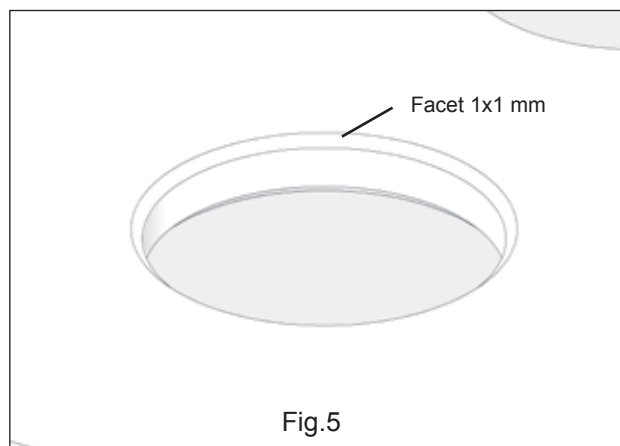

Fig.5
- 2C. On the top and bottom of the recess(es) should be a facet of at least 1x1 mm be applied (with exception for Solid Surface) (**fig. 5**).